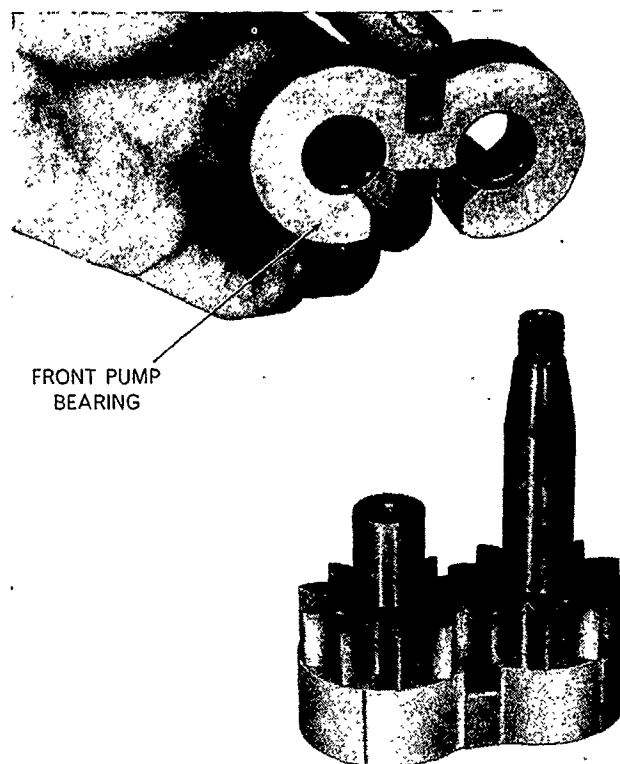

Figure 97
2. Assemble the drive connector end of the pressure driven gear in the left-hand bore of the rear bearing, Figure 97.
3. Place the front bearing over the gears, matching the grooves in each bearing, Figure 97.